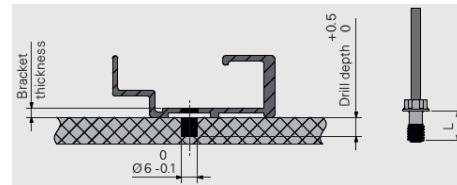

Figure 5 - SFS TUF-S-6xL concealed fixing
- stainless SFS TUF-S-6xL concealed fixings (see Figure 5) into metal sub framing system